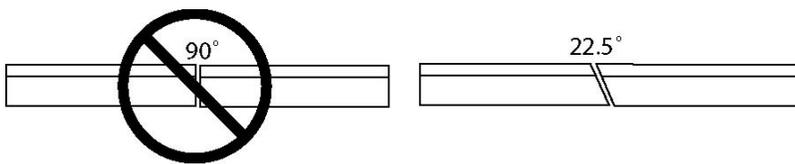

Fig. 13
- To seam together long, continuous pieces, first attempt to match the wood grain of the two pieces at the seam. Next, select the least obtrusive location to position the seam above the long, straight section (For example, above the partitions separating two sections is a less obtrusive position than in the center of a double-hang section or center of a long wall.) NEVER seam crown molding, butting two 90° cross cuts. Always seam to molding pieces using two 22.5° angle cuts, as in the overhead view Fig. 13. (This is the smallest angle, which has the greatest stability and creates the least waste material.)